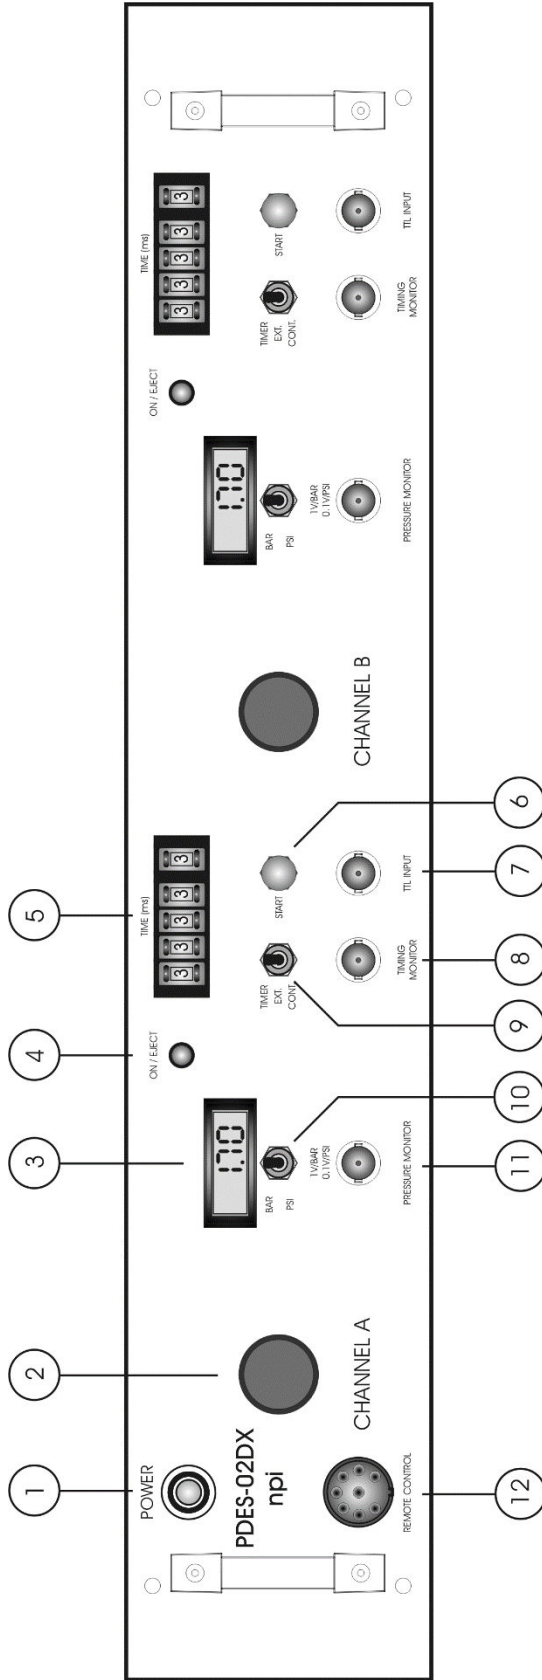

Figure 1: PDES-2DX front panel view (the numbers are related to those in the text below)
In the following description of the front panel elements, each element has a number that is related to that in Figure 1. The number is followed by the name (in uppercase letters) written on the front panel and the type of the element (in lowercase letters). Then, a short description of the element is given. Since the front panel elements are identical for each channel (with identical functions and labels) and therefore, are numbered and described only once (for channel A).
- o Select the operation mode using the respective toggle switch at the front panel (see Figure 1).
- o Use the START button to test the system. The START button can be used to start ejection in TIMER or EXT. mode. In TIMER mode pushing the START button starts ejection for the time set by the timer control (#5, Figure 1). In EXT. mode ejection lasts as long as the START button is pushed.